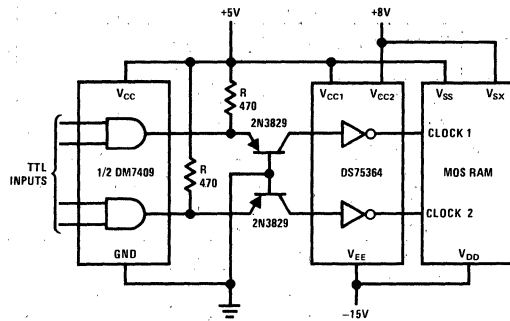
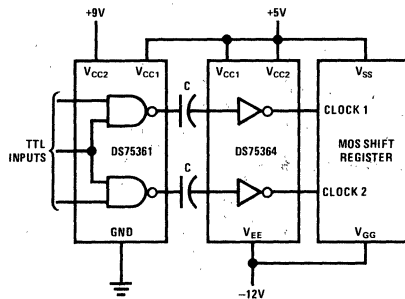

FIGURE 2. MOS RAM Clock Driver System with PNP Transistor Current Source used to Level-Shift to Inputs of DS75364
FIGURE 3. MOS Shift Register Clock Driver System with Capacitive Coupling used to Level-Shift to Inputs of DS75364
Applications of the DS75364 used as an interface device in systems converting TTL signals to negative polarity MOS clock signals are shown in *Figures 2 and 3*. In both applications the DS75364  $V_{EE}$  pin is connected to a negative MOS supply voltage. The  $V_{CC2}$  supply pin may be connected to the  $V_{CC1}$  pin as shown in *Figure 3* or connected to a separate voltage more positive than  $V_{CC1}$  as shown in *Figure 2*. The DS75364 may be used over a wide range of  $V_{CC1}$  and  $V_{CC2}$  supply voltages which are positive with respect to  $V_{EE}$ . However, for proper operation the voltage at the inputs of the DS75364 should not be more positive than the voltage at  $V_{CC2}$ .
*Figure 2*. Resistor R sets the current and an open-collector TTL gate is used to switch the PNP transistor. *Figure 3* shows capacitive coupling being used to level shift with the DS75361 TTL-to-MOS driver used as a low impedance voltage source driver. The value of coupling capacitor C depends on the frequency and characteristics of the signal applied to the capacitor.